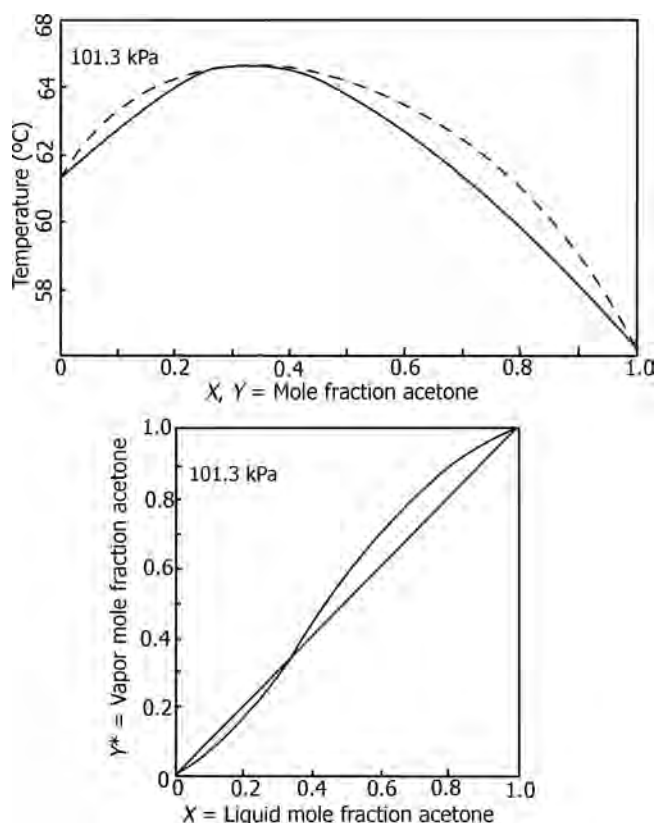

FIGURE 17.29 T - x - y and x - y diagrams for acetone-chloroform system at 101.3 kPa pressure.
- Maximum boiling azeotropes: Acetone–chloroform. Azeotropic composition is 0.64. Azeotropic temperature is 339.12 K (Figure 17.29).